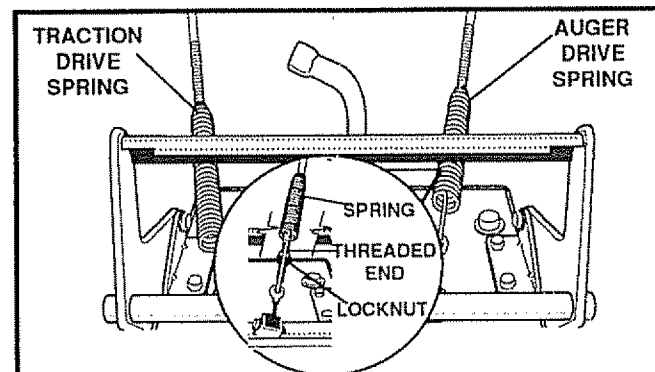

FIG. 25
- Pull spring cover up to expose spring. Push the cable through the spring (See Fig. 25) to expose the threaded portion of the cable.
- Hold the square end of the threaded portion with pliers and adjust the locknut in until the excess slack is removed (See Fig. 25 inset).